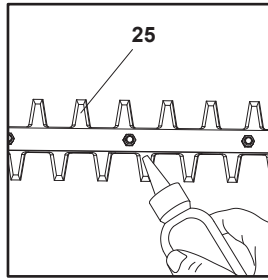

Fig. 44
13. Lubricate the internal surfaces of the blade if the hedge trimmer blade (25) overheats during operation (Fig. 44).